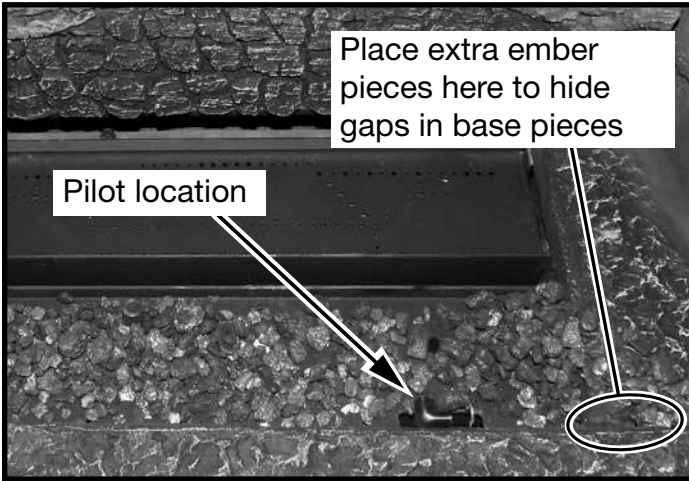
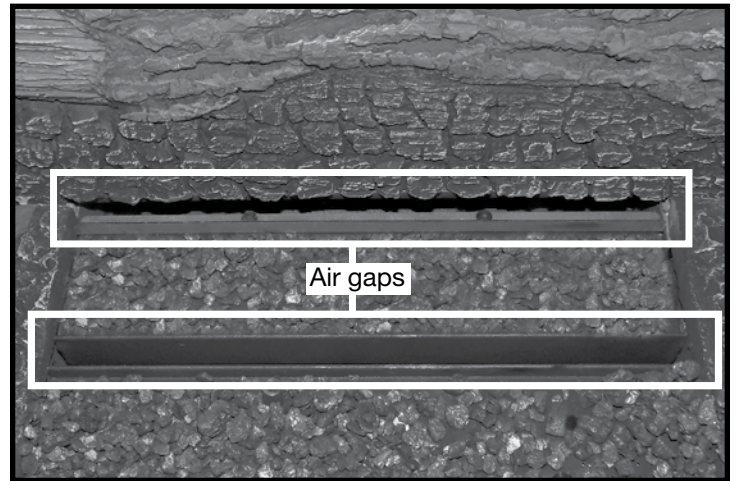

Figure 75: Ember pieces surrounding pilot.
Figure 76: Air gaps.
9. Distribute a thin layer of ember pieces (Figure 58) onto the front and rear burner trays (Figure 74). Place extra ember pieces on the thin, but noticeable gaps between the front base piece and the two side base pieces (Figure 75). Keep the ember pieces from interfering with the pilot assembly. Keep the ember pieces from falling into the air gaps between the front and rear burners and the gap between the rear burner and the air deflector which supports the first log (Figure 76).